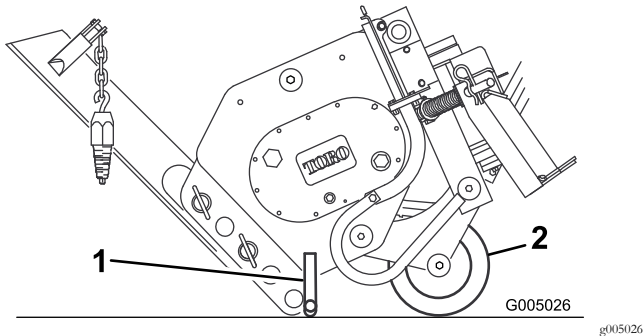

Figure 8
3. Swing the blade up and secure it as in Figure 8.
4. Tilt the plow forward and lower it to the ground or trailer, with the stand and coulter supporting the weight of the plow (Figure 8).